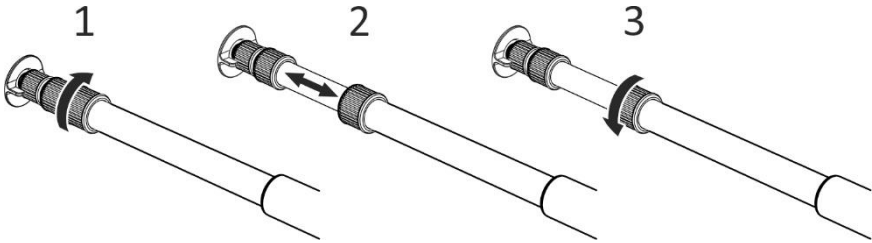

Figure 2.4 – Setting the required length of the telescopic tube
2.2.5.1 Set the required length of the telescopic tube. To do this, set the length of each of three segments of the tube (Figure 2.4):